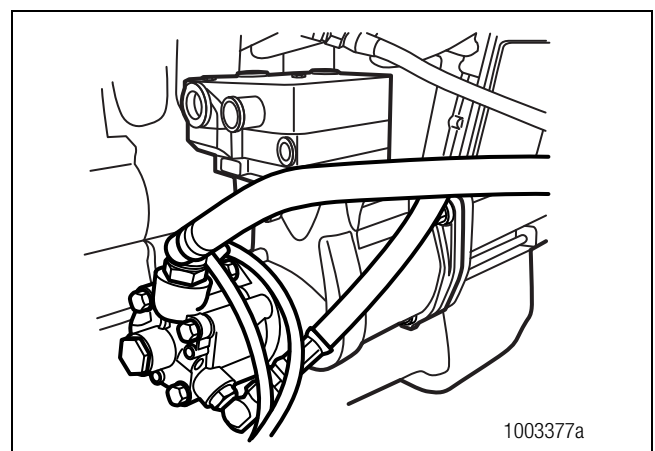

Figure 3.2
5. **Through-drive version air compressor only:** If there is a power steering pump installed at the **back** of the compressor, remove the power steering pump. Figure 3.2. Disconnect the power steering pump. Refer to the manufacturer's manual for specific information. It is not necessary to remove pumps installed at the front of the compressor.